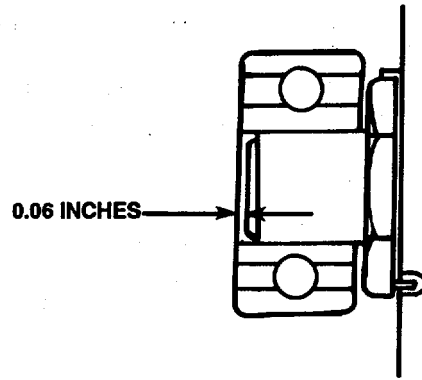

FIGURE 3-58. *Pilot Bearing (PTO/SL-111).*
- aa. Press the pilot bearing (1) on the clutch shaft (34). Solidly support the output end of the clutch shaft (34) during installation of the pilot bearing (1). Also, apply the force to the inner race of the pilot bearing during installation. Don't press the pilot bearing all the way onto the shaft. Leave a distance of 0.06 inch between the front face of the bearing inner race and the end of the clutch shaft. Refer to FIGURE 3-58 .